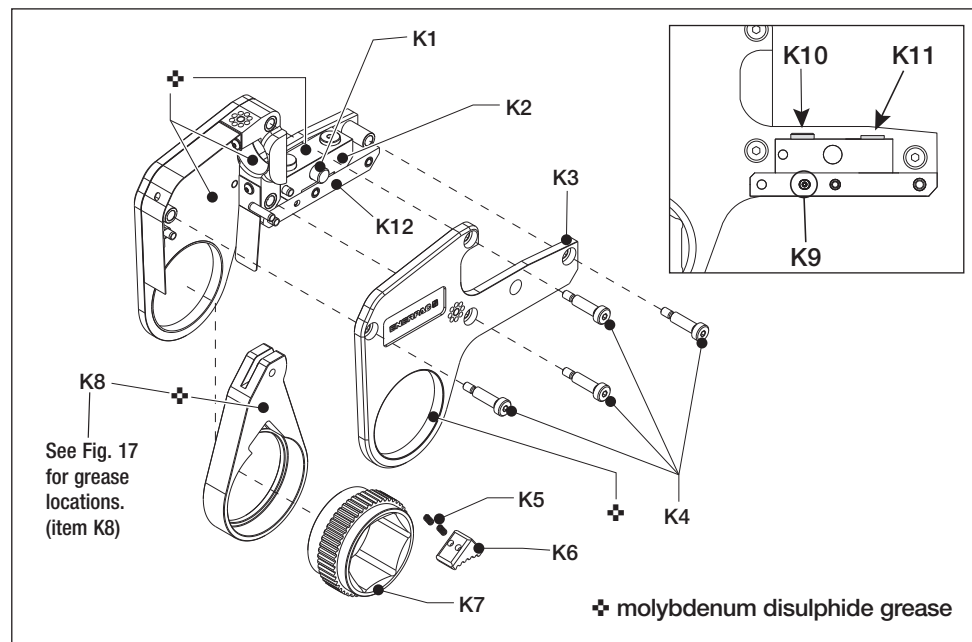

Fig. 16
5.4 Preventative Maintenance - Cassette (Fig. 16 and 18)
5.5 Full Maintenance - Cassette (Fig. 16, 18 and 19)
- Dry all components. Apply a thin coat of molybdenum disulphide grease (⚡) as indicated in Figures 16 and 18. Refer to Section 5.4 for additional information about application of molybdenum disulphide grease.